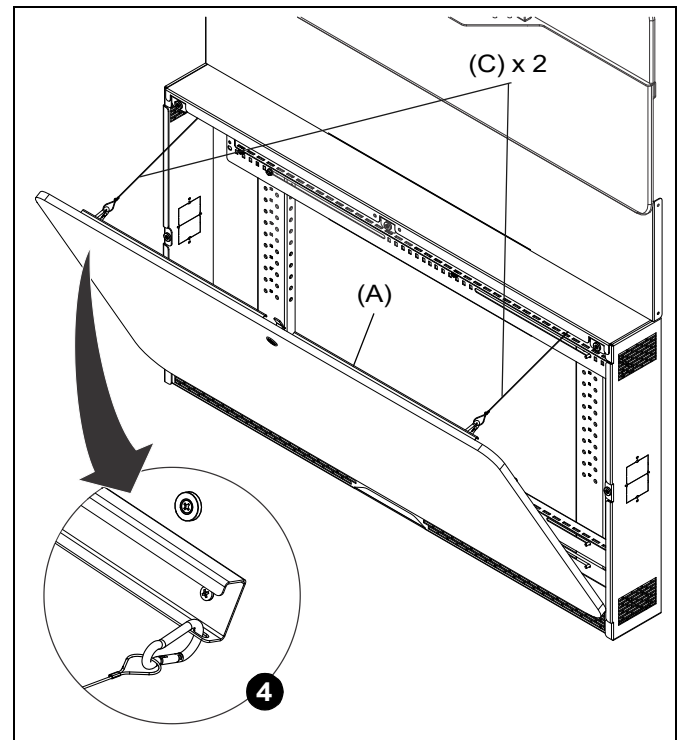

Figure 4
4. While holding the locking cover (A) in place, attach the tethers (C) to the open slots on the inside of the locking cover (A). (See Figure 4)